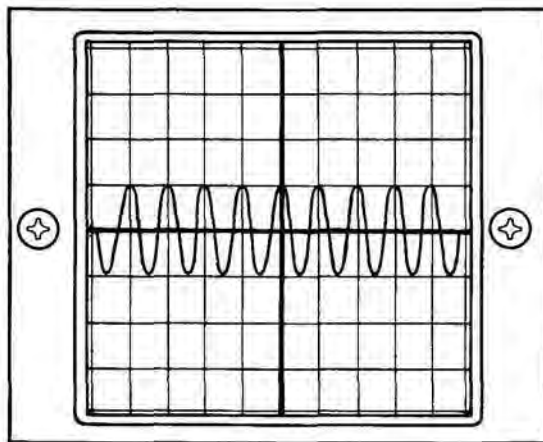

Figure 3-14 Displayed Sinewave Aligned With Major Horizontal Axis
| 5. | Using HORIZ Control (38) and VERT Control (40), center displayed sinewave on CRT Display (36) as shown in Figure 3-14. |